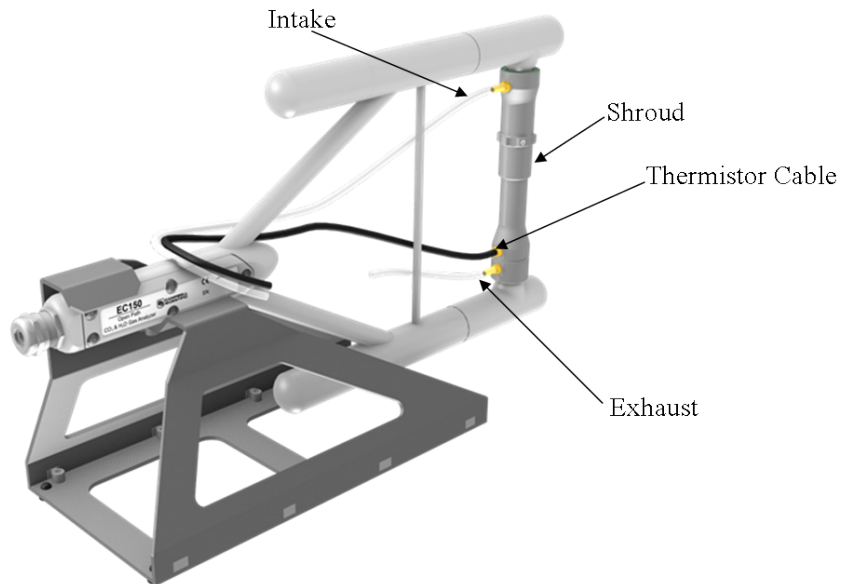

FIGURE 7-1. Zero-and-span shroud mounted on the zero-and-span stand
If the zero-and-span procedure is being performed off site (for example, in a laboratory), be sure to mount the EC150 on the zero-and-span stand (refer to FIGURE 7-1). This will ensure the analyzer is in the correct upright orientation and has the correct optical alignment.
4. Position the EC150 zero-and-span shroud (pn 26390) over the upper and lower snouts. See FIGURE 7-1 for guidance with the following steps.
- e. Hang the lines and cable over the trunk of the sensor to alleviate any strain on the optical arms. See FIGURE 7-1.